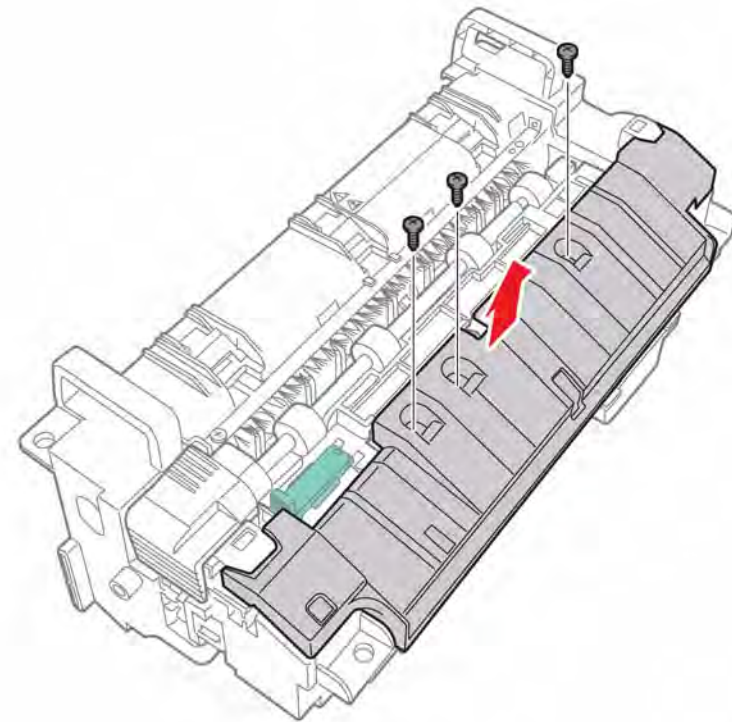

Figure 2 Remove the duplex cover
4. Remove 3 screws (Black, plastic) that secure the duplex cover to the Fuser, Figure 2.